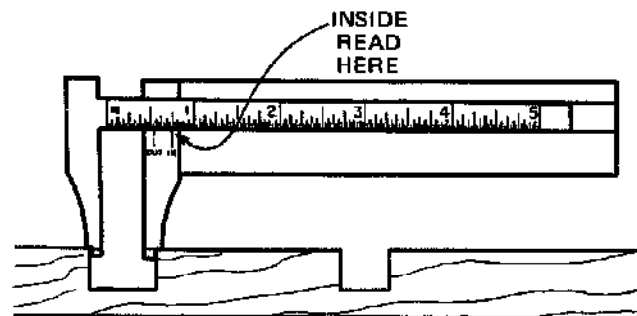

Fig. 2-19 Application of caliper rule for taking an inside dimension
2. Insert the round into the opening. Move the sliding rule outward until both rounds lightly touch the sides of the openings as shown in figure 2-19.